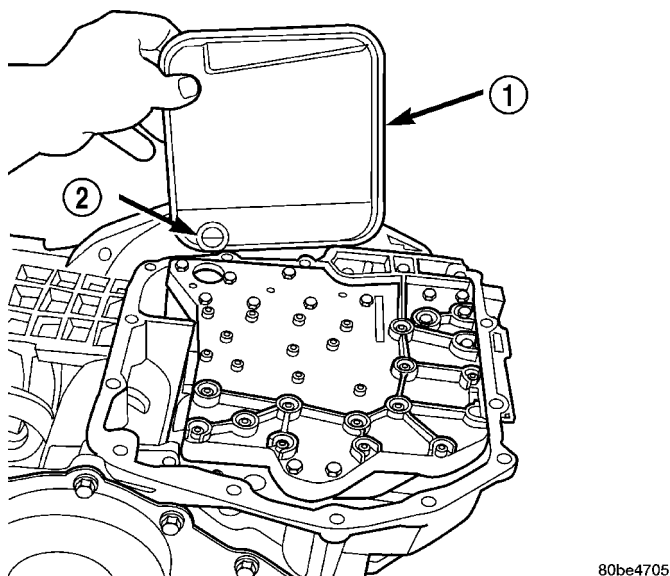

Fig. 18 Remove Oil Filter
(6) Remove oil filter (Fig. 18).